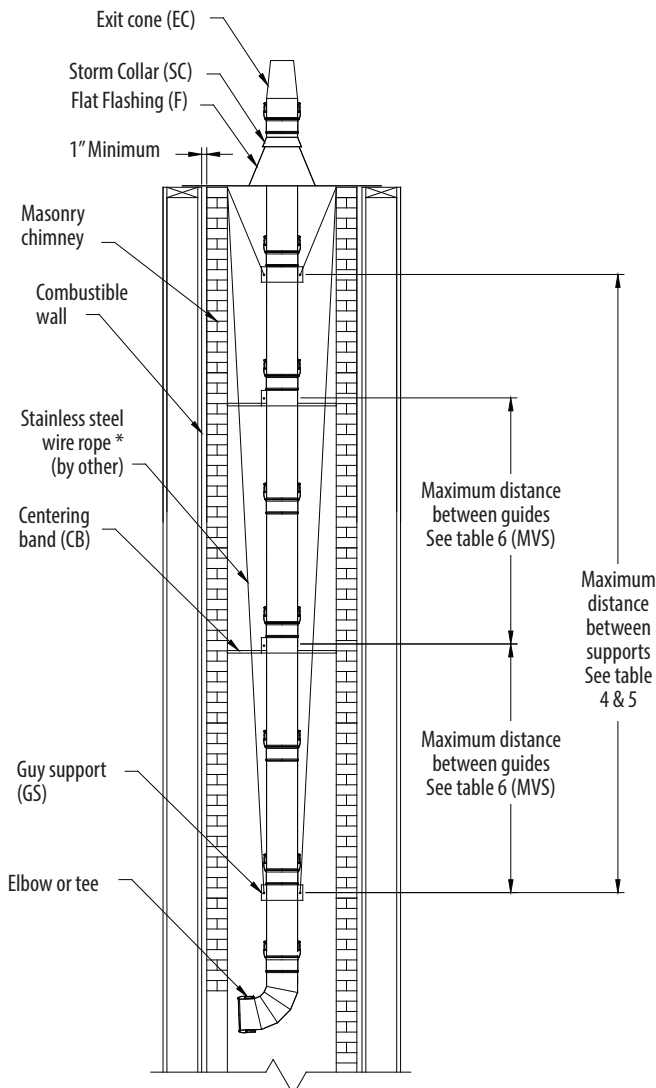

Figure 12 - Installing Secure Seal as a liner
- 2- Make sure the Secure Seal Flex is supported at the bottom of the chimney. Refer to Figure 12 for guiding and support installation in the masonry chimney.